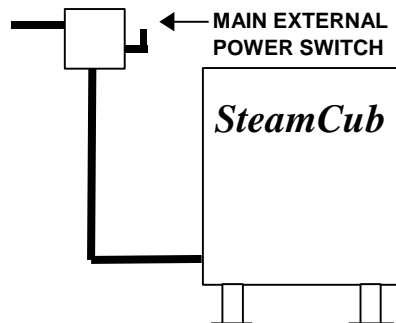

Figure 3-2
1. Install a main disconnect switch and a separate fuse or breaker for this appliance as shown in Figure 3-2.